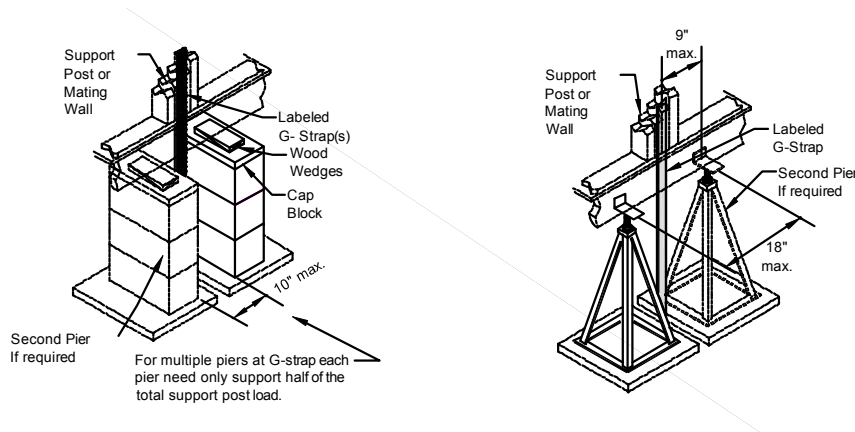
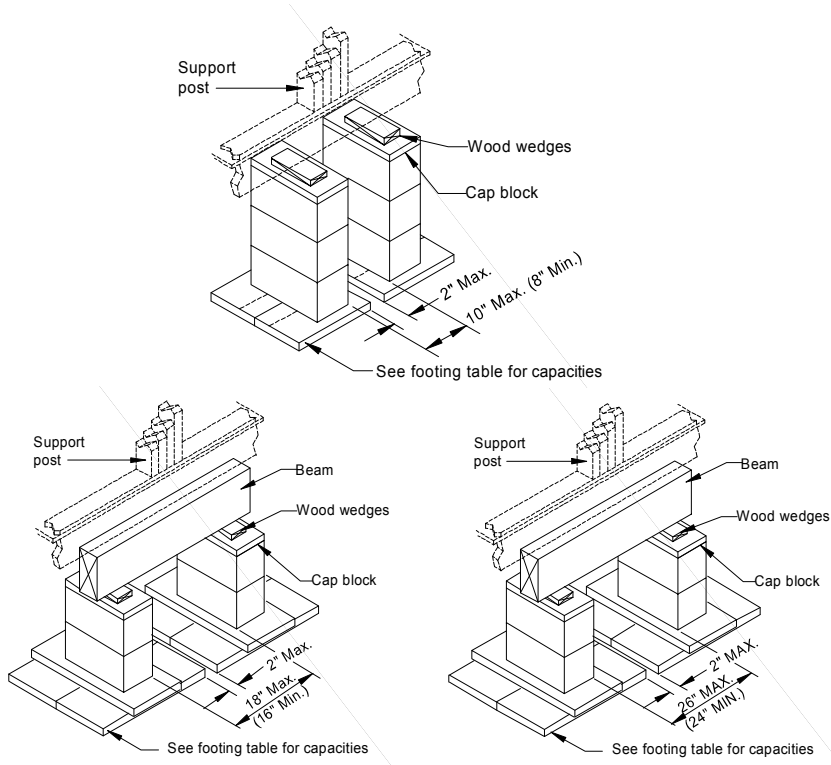
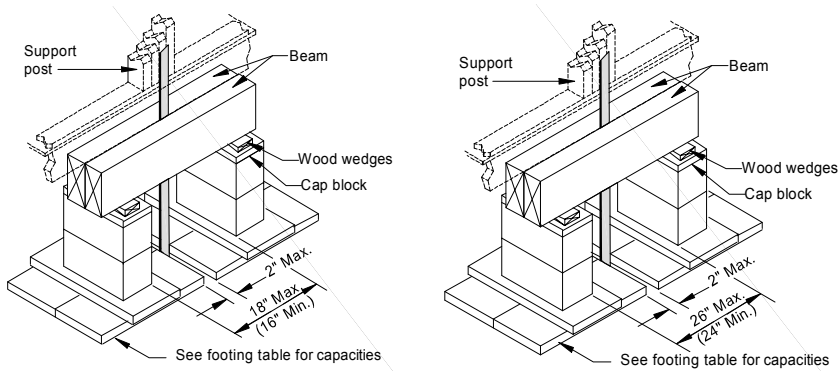

Figure 16. Piers at Support Posts (with G-Strap)
Figure 17. Multiple piers at support posts
Figure 18. Multiple piers and G-strap at support posts
- For multi-section units, the mating line piers may need special solutions. If a G-strap occurs at a support post, the piers can be arranged as shown in **Figure 16**. If the loads at the support post are large enough, it may be necessary to use double piers as shown in **Figure 17**. If a G-strap occurs where double piers are used, it may be necessary to add support beams as shown in **Figure 18**.
- **Figure 15** thru **Figure 18** are intended to show pier and footing placement. The actual pier construction shown (concrete block or commercial metal) is not meant to limit the type of pier that can be used. Any type of pier described in **Table 13** (p. 38) may be used in these configurations.